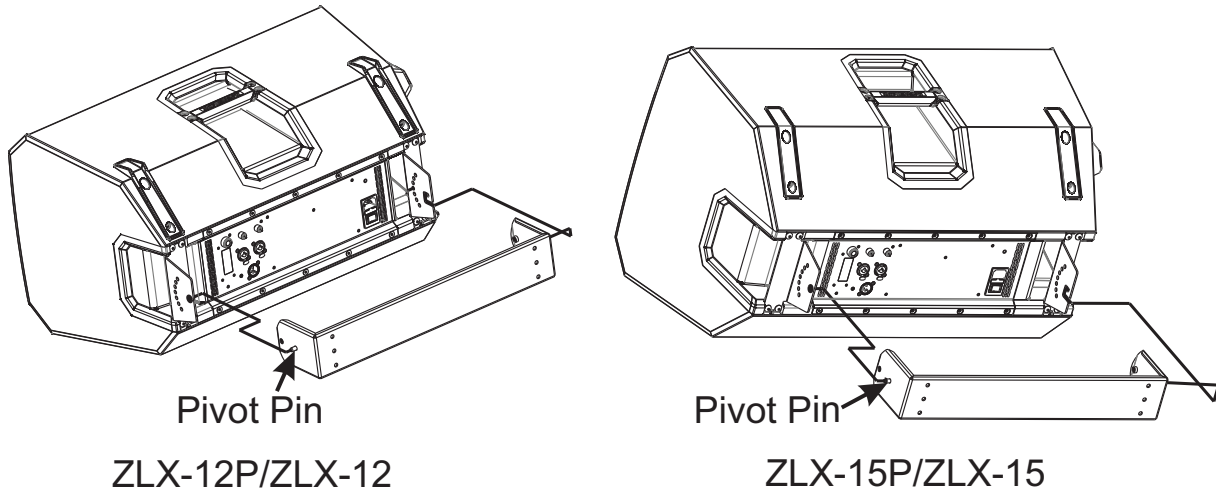

Figure 2.6: Guide onto U-bracket—Horizontal
4. Guide the **lower mount** and ensure the lower U-bracket pivot pin is securely placed in the notch. (See Figure 2.6)
4. Lift the **loudspeaker** and place the **lower mount** (positioned on the left side) onto the pivot pin on left side of the U-bracket. (See Figure 2.6)